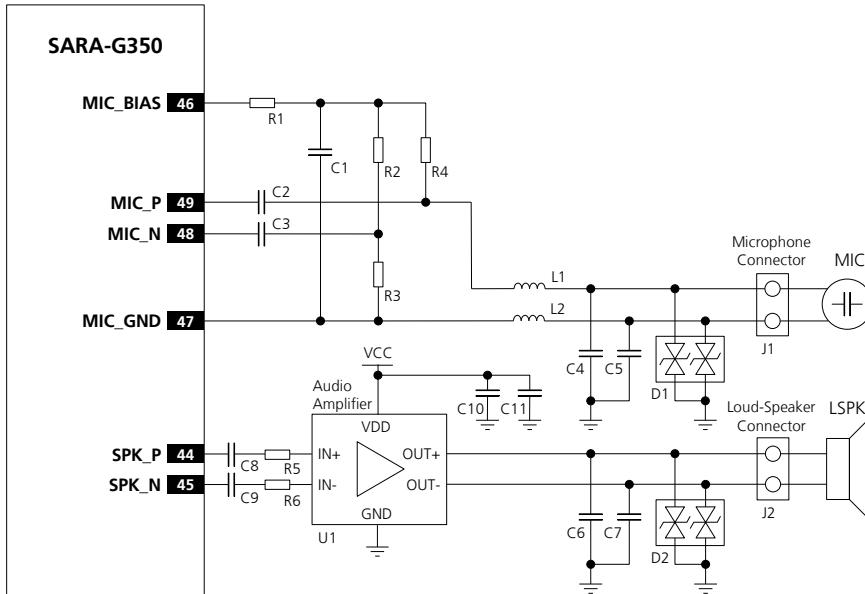

Figure 58: Analog audio interface hands-free mode application circuit
Figure 58 shows an application circuit for the analog audio interface in hands-free mode, connecting a 2.2 k Ω electret microphone and an 8 Ω or 4 Ω loudspeaker:
As in the example circuit in Figure 58, follow the general guidelines for the design of an analog audio circuit for hands-free mode:
- Provide a proper series capacitor at both MIC_P and MIC_N analog uplink inputs for DC blocking (C2 and C3 100 nF Murata GRM155R71C104K capacitors in Figure 58). This provides a high-pass filter for the microphone DC bias with proper cut-off frequency according to the value of the resistors of the microphone supply circuit. Then connect the signal lines to the microphone.
- Mount an 82 nH series inductor with self resonance frequency \sim 1 GHz (e.g. Murata LQG15HS82NJ02) on each microphone line (L1 and L2 inductors in Figure 58).
- Mount a 27 pF bypass capacitor (e.g. Murata GRM1555C1H270J) from each microphone line to solid ground plane (C4 and C5 capacitors in Figure 58).
- Provide a 47 nF series capacitor at both SPK_P and SPK_N analog downlink outputs for DC blocking (C8 and C9 Murata GRM155R71C473K capacitors in Figure 58). Then connect the lines to the differential input of a proper external audio amplifier, differential output which must be connected to the 8 Ω or 4 Ω loudspeaker. (See the Analog Devices SSM2305CPZ filter-less mono 2.8 W class-D Audio Amplifier in the circuit described in Figure 58.)
- Mount a 27 pF bypass capacitor (e.g. Murata GRM1555C1H270J) from each loudspeaker line to solid ground plane (C6 and C7 capacitors in Figure 58).
- Provide additional ESD protection (e.g. EPCOS CA05P4514THSG varistor array) if the analog audio lines will be externally accessible on the application device, according to EMC/ESD requirements of the custom application. The protection should be mounted close to an accessible point of the line (D1 and D2 parts in the circuit described in Figure 58).